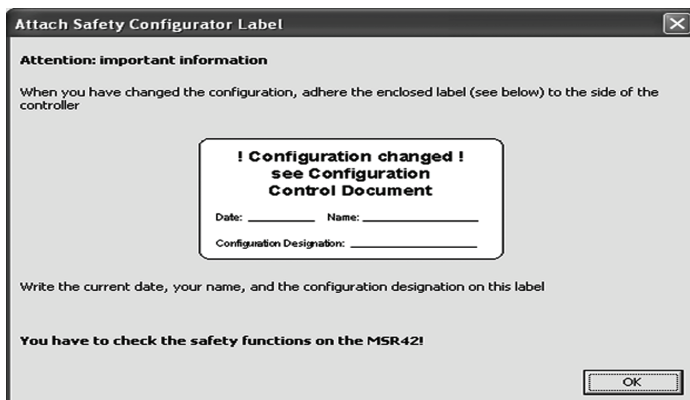

Figure 50: Confirm and put the configuration changed label on the MSR42
15. Sign the Configuration Control Document (*Figure 51*) and the “Configuration Changed” label. Attach this label to the newly configured MSR42 control unit (*Figure 50*) and confirm with “OK.”